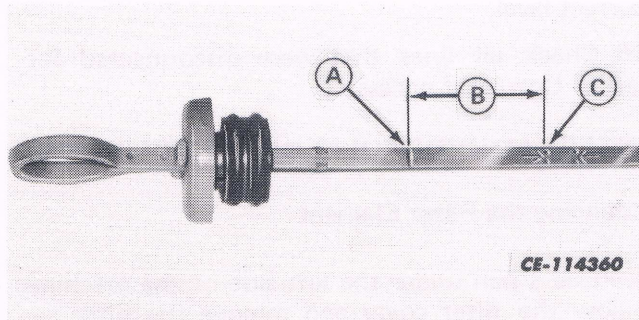

Fig. 33. Dipstick Severe Slope Full Mark
NOTE: If the machine is to be operated under severe slope conditions (greater than 20° angle), add oil to bring the level to the line (A, Fig. 33) 38.1mm (1-1/2-inches) (B) above the top of the arrow (C). This level will prevent cavitation of the hydraulic pumps.